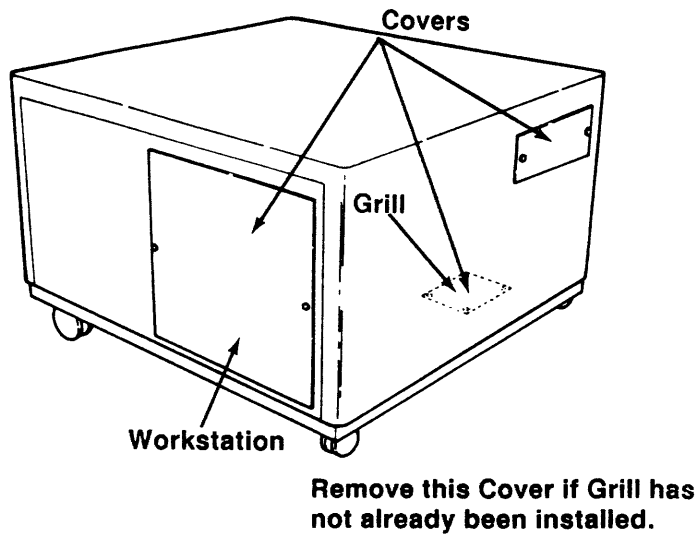

Figure 2-3. 1B
- Loosely install an M4 x 0.7 mm Nut (Item 21) and #6 Plain Washer (Item 15) on the threaded shaft of the Adjustment Bracket (Figure 2-3.C).